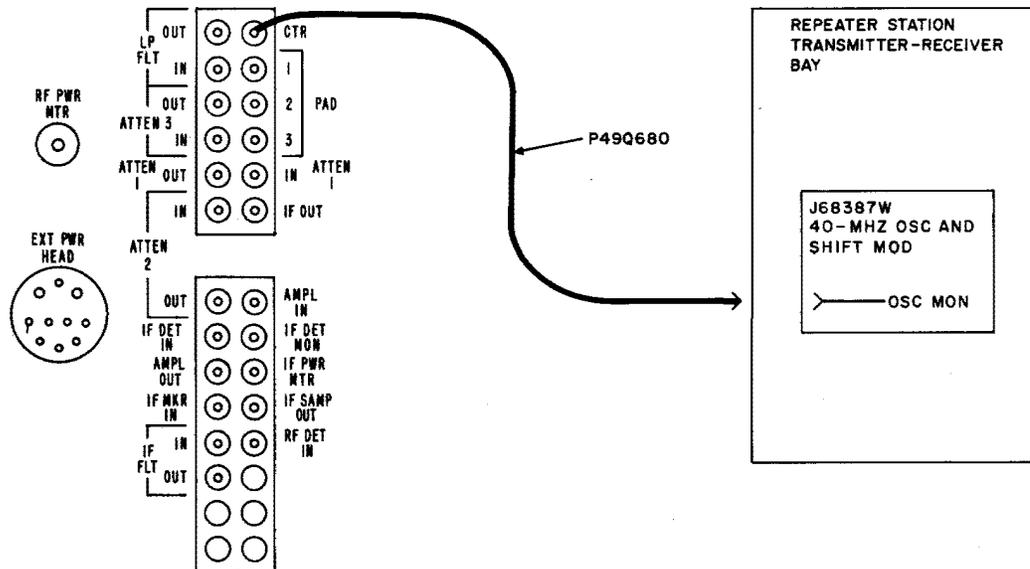

Fig. 4—40-MHz Oscillator Test
- 2 Make the test connections shown in Fig. 4.